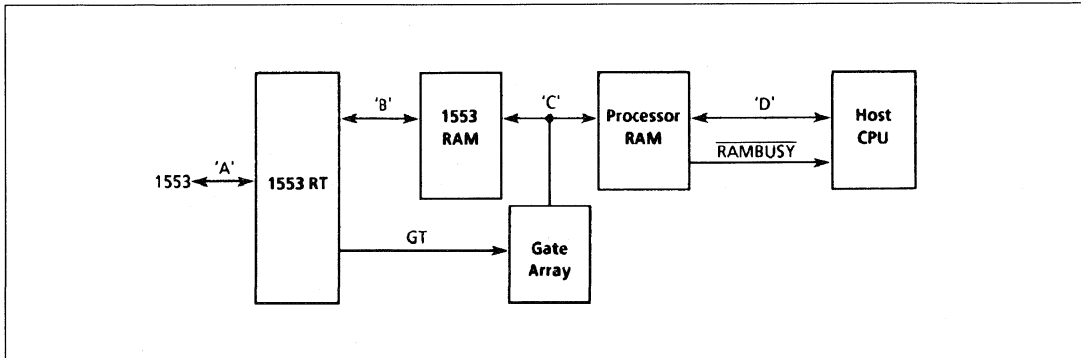

Figure 12: MCT83100 Data Flow Diagram (read in conjunction with Figures 13 and 14)
- c) When the RACWd is written to by the host CPU immediately before the gate array has interrogated it. In this situation the gate array 'C' transfer, (see Figure 12), is held up until the host CPU alters the contents of the RACWd.
Note: A,B,C and D refer to the data transfers indicated in Figure 12. Host CPU memory access time is shown considerably less than 300ns for diagrammatic purposes. Normally processor access would be slower and less RAMBUSY pulses would be generated.
Note: A,B,C and D refer to the data transfers indicated in Figure 12.